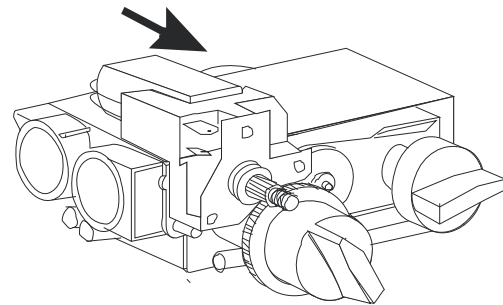
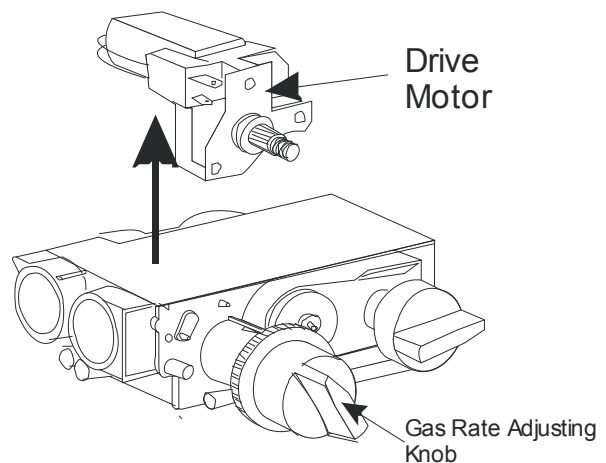

Figure 79
Figure 80
- Turn the gas rate adjusting knob fully anticlockwise and gently manipulate the motor free from the valve (see note). (See **Figure 79** & **Figure 80**)